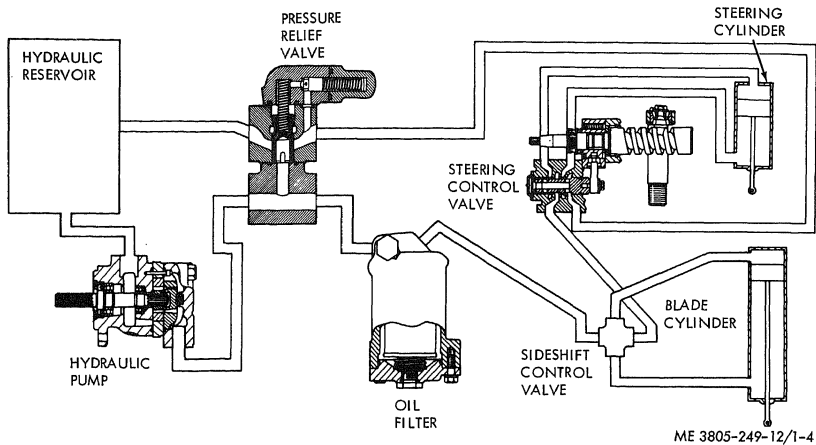

Figure 1-4. Hydraulic schematic diagram.
(34) *Hydraulic schematic diagram.* Refer to figure 1-4.